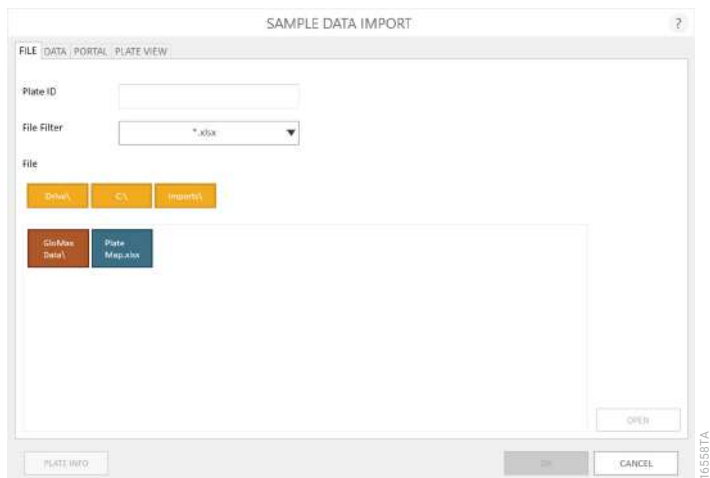

Figure 42. ‘Sample Data Import’ screen. First screen shown when importing a plate map into the GloMax[®] Software.
3. Tap the **Import** button located on the right side of the ‘Protocol-specific’ screen (Figure 41) to display the ‘Sample Data Import’ screen (Figure 42).
4. On the ‘Sample Data Import’ screen (Figure 42) provide the following information: